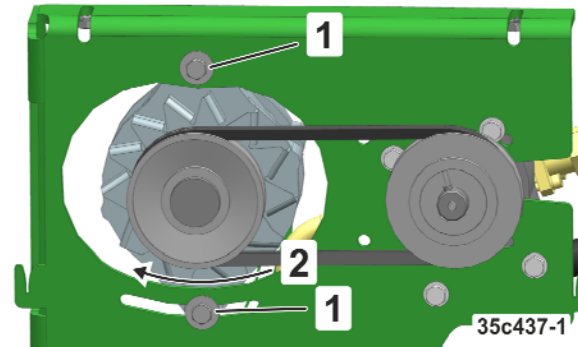

Fig. 311
2. Loosen the bolts (Fig. 311/1)
3. Tension the V-belt using the generator (Fig. 311/2)